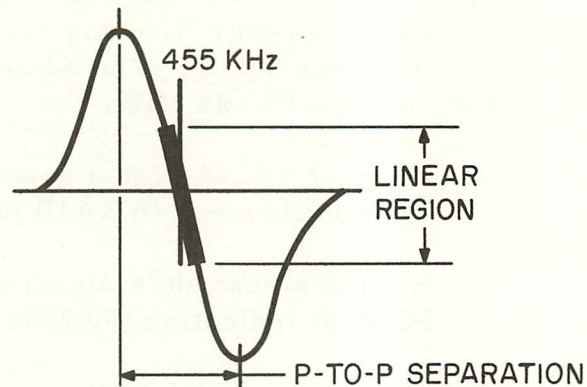

Figure 5-9. IF-112 Family FM Discriminator Response.
- (3) Connect the sweep generator output to the base of Q7 through a 0.01 uf capacitor.
- (4) Increase the sweep generator output until limiter stage (Q7, Q8) is fully saturated.
- (5) Adjust L7, L8, and L9 for maximum linearity, Figure 5-9. Peak-to-peak separation should be between 50 and 60 KHz.